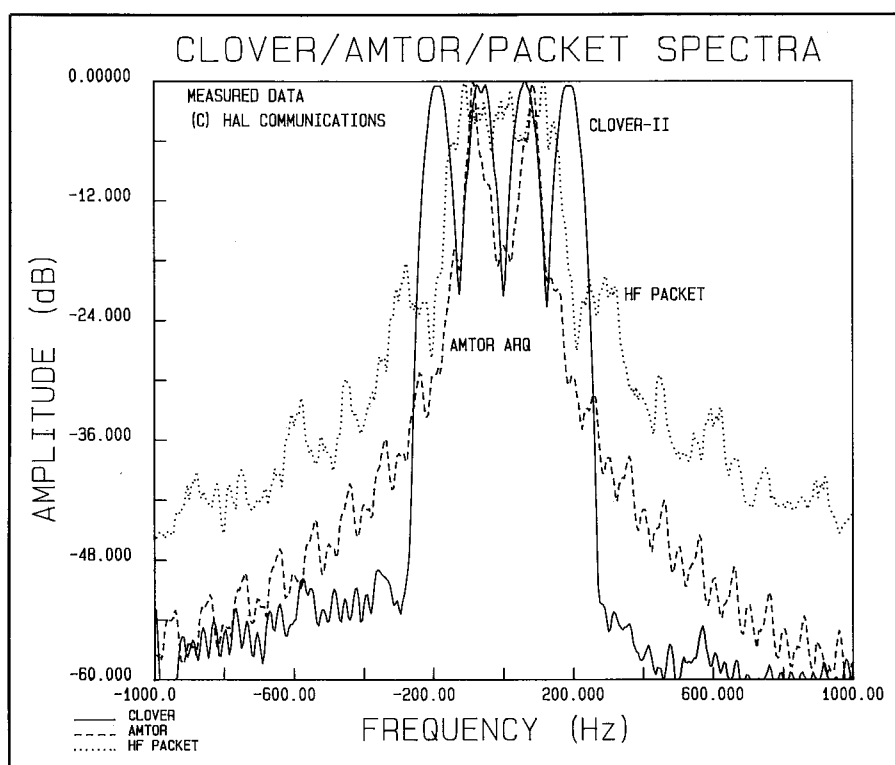

Fig. 1- Comparison of AMTOR, HF Packet, and CLOVER-II spectra.
PSK modulation itself poses some pretty serious problems. If we modulate a *continuous* carrier using PSK, the frequency spectrum we get is *very* bad for HF use, as sidebands are strong and extend over a wide spectra. CLOVER avoids this problem by two techniques: (1) each of the four tones is an ON/OFF amplitude pulse and the phase is changed only when the pulse is OFF; (2) the amplitude waveform of each ON/OFF pulse is carefully shaped to minimize the resulting frequency spectra. Combined, these techniques produce a composite CLOVER spectra that is only 500 Hz wide down to -60 dB. This is one half the radio bandwidth required for AMTOR and one quarter that for HF packet radio. A comparison of AMTOR, HF packet, and CLOVER spectra is shown in fig. 1.
We hear this question often. The short answer is yes. The reason lies in the definition of the CCIR Emission Designator6 and how that matches our FCC Part 97 Rules and Regulations. As can be seen in fig. 1, CLOVER bandwidth is 500 Hz—no doubt about it! Since the CLOVER modulator generates tones which drive an LSB transmitter, the modulation mode is "J2." One possible point of confusion: While CLOVER does use multiple tones and multiple modulation levels, CLOVER is *not* a multiplex emission; we are sending only one data stream over the air. The full CCIR emission designator for CLOVER is "500HJ2DEN." This all agrees with FCC Part 97 Rules and Regulations.